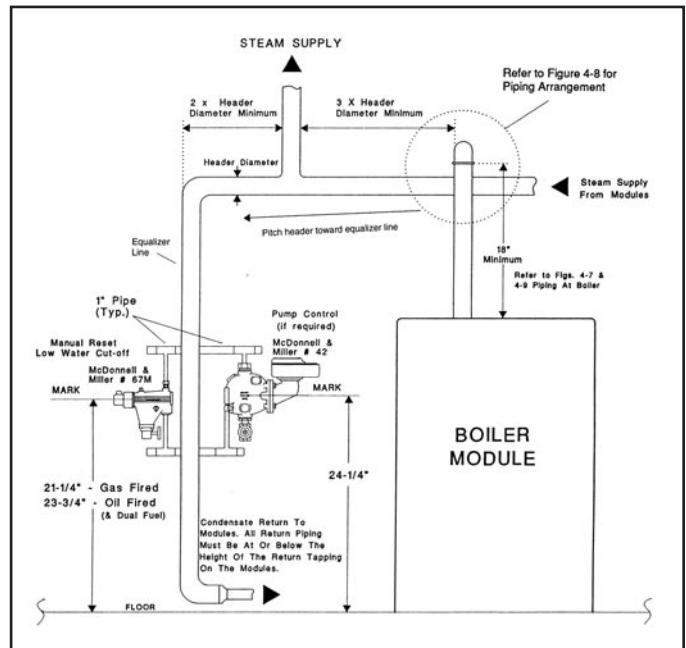
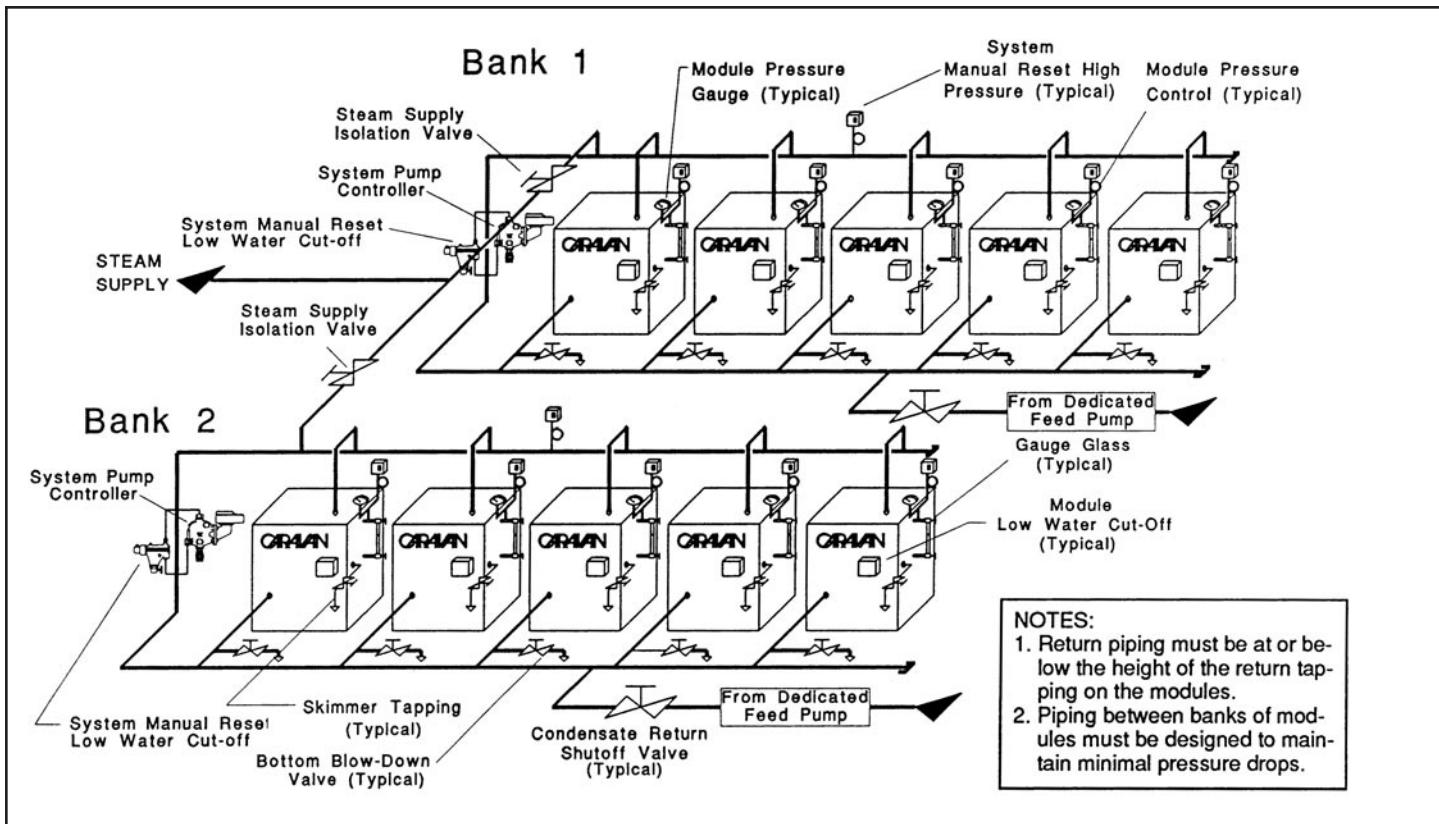

Figure 8: Piping details
Figure 11: Steam modules, isolated banks (Note: For detail piping refer to pages 8 & 9)
Modular steam boilers must be piped in a way that provides nearly equal steam pressure at all modules. Supply and return pipes and fittings should be identical on each module. The pressure drop in the supply header, between the connection to the building and the supply tapping on each module must be kept to a minimum. When installed properly, this will result in minimal variance in water levels between modules. Figure 8 shows the take off to the system after the last module and before the equalizer/drain line. Header size shown on this page (Table 8) is based on this
5. All banks of modules must have an equalizer/drain line from the supply header to the return header. This equalizer/drain should be located at the end of the header that the system steam supply is taken from. The equalizer/drain should be the same size as the supply header (see figure 8, page 10). The supply & return header for each bank should be sized according to Table 8, page 10.
7. The supply connection between the building steam main and the module steam header should be located between the last boiler on the header and the equalizer/drain. Connection must be at least 2 header diameters from the last module (see Figure 8, Page 10).
A balancing valve MUST be provided on the feed-pump discharge line. This valve is used to adjust water volume to prevent feed-water from entering the boilers too quickly, which can cause water levels to "bounce". The pump discharge pressure must be slightly higher than the steam operating pressure. A rate of 1 GPM per module is more than sufficient to feed a steam Caravan system (see Table 9). The feed pump is activated by a pump control mounted on the equalizer drain line, (see Figure 8, page 10). When the boiler water level drops, the pump control energizes the feed-water pump, transferring feed-water from the receiver to the bank of modules. On systems with more than one bank of boilers that are isolated (valved), each bank must have a dedicated feed-pump with a dedicated power supply, (see Figure 11, page 12). This will prevent the operation of one bank of boilers from interfering with another.